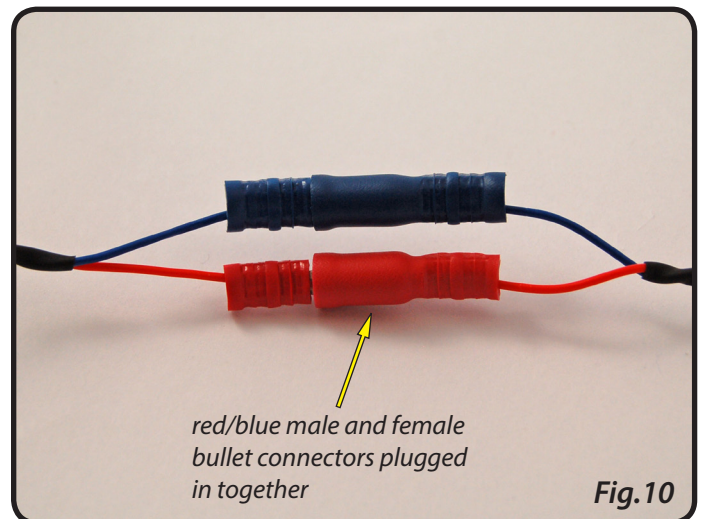

Fig.10
15. Finally clip the Red male/female connectors and the Blue male/female connectors together as shown in Fig.10.